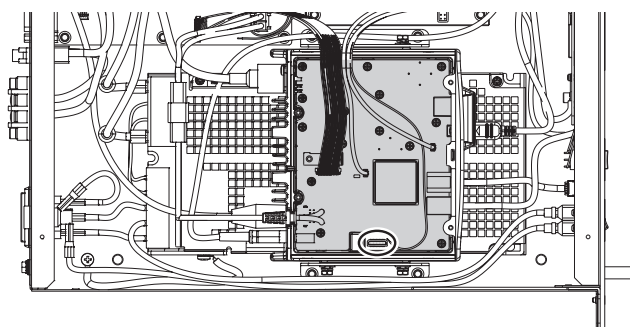

Figure 3
- 5 Refer to Figure 3 for the mounting location for the FVS-2.